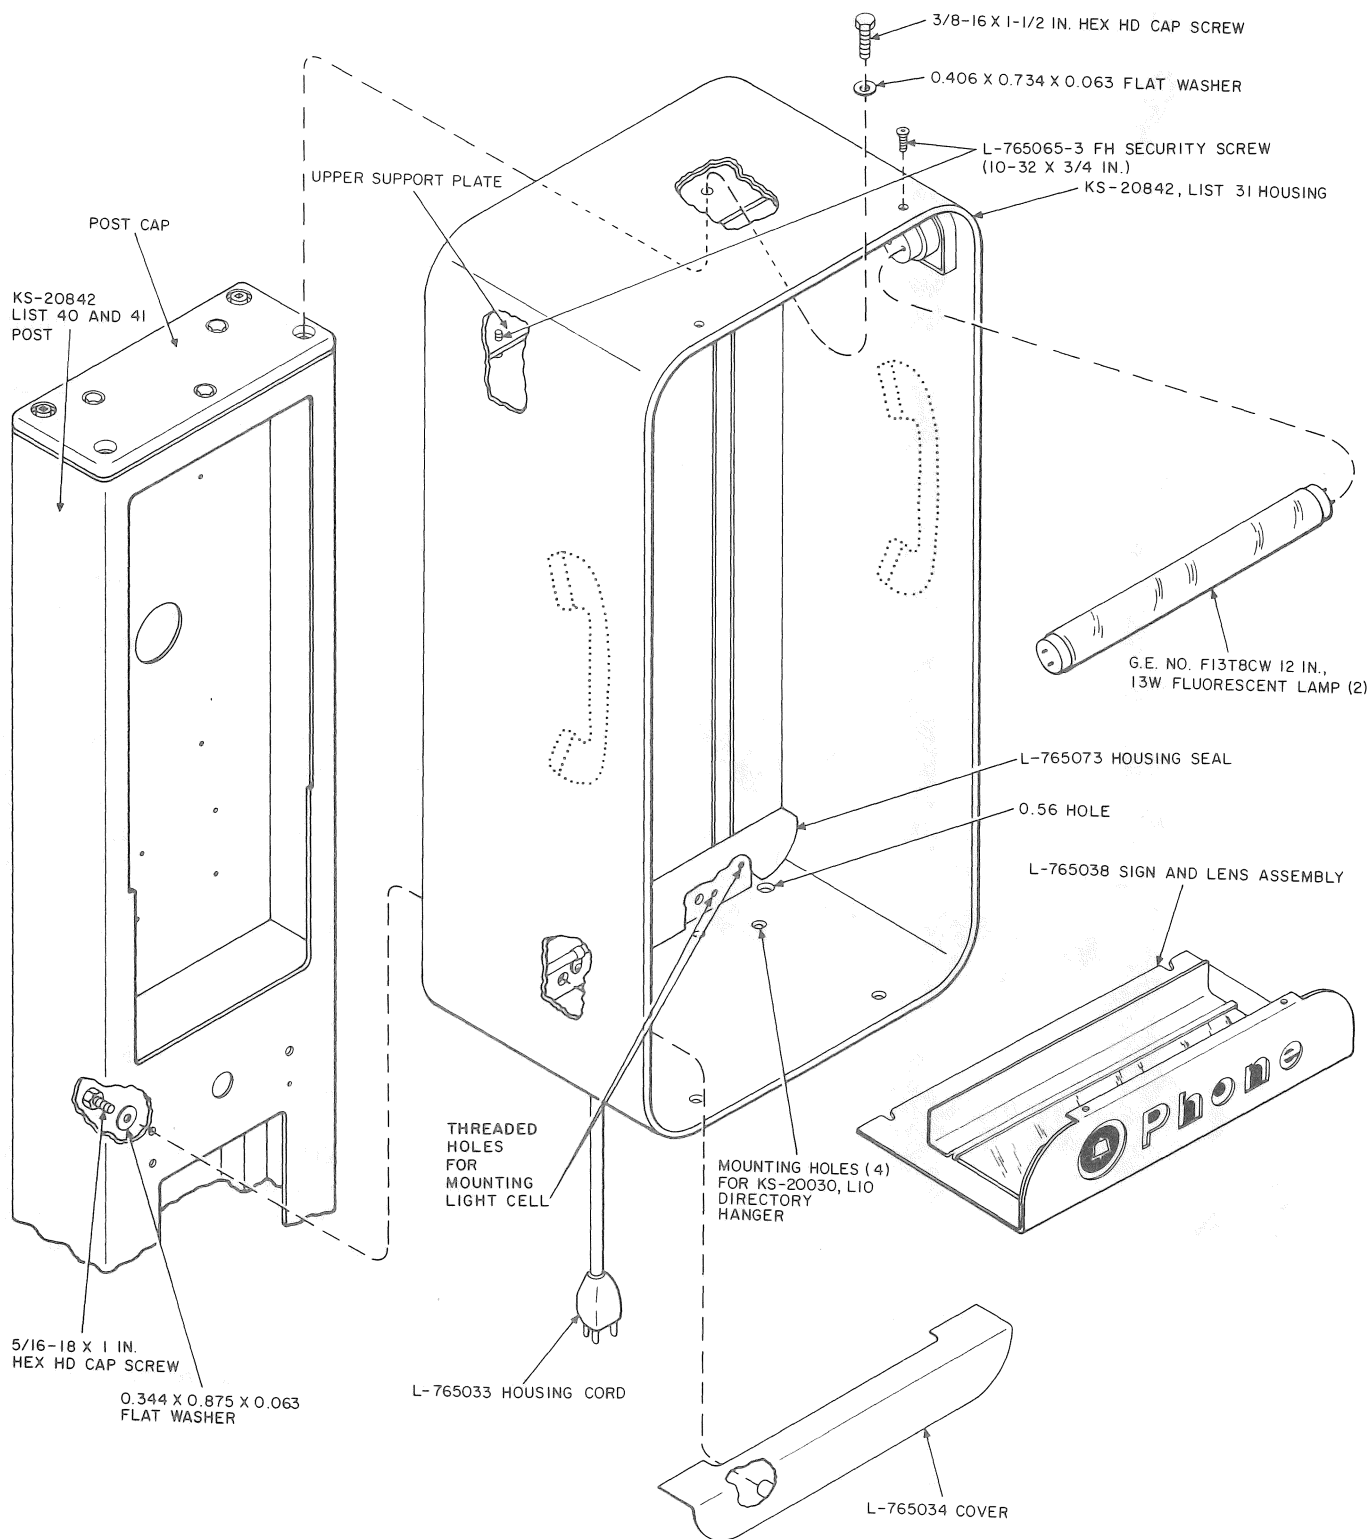

Fig. 18—Installing List 31 Housing on Post
3.06 Install the KS-20842, List 31 housing (Fig. 18) on the List 40 (walk-up) or List 41 (drive-up) post as follows:
the L-765038 sign and lens assembly from the upper part of the housing (Fig. 18 and 19).